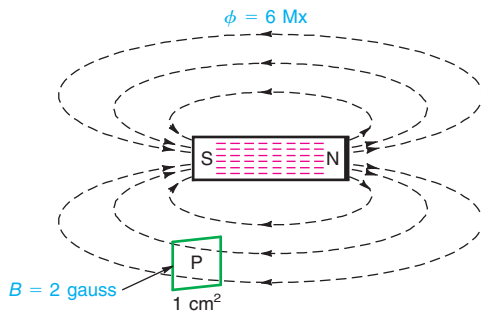

Figure 11-5 Total flux ϕ is six lines or 6 Mx. Flux density B at point P is two lines per square centimeter or 2 G.
Field strength is expressed in lines of force. One maxwell (Mx) unit equals one magnetic field line. In Fig. 11-5, as an example, the flux illustrated is 6 Mx because there are six field lines flowing in or out for each pole. A 1-lb magnet can provide a magnetic flux ϕ of about 5000 Mx.
Another unit of magnetic strength is flux density. As shown in Fig. 11-5, the *flux density* is the number of magnetic field lines per unit area of a section perpendicular to the direction of flux. As a formula,
In the cgs system, the gauss (G) is one line per square centimeter, or $1 \text{ Mx}/\text{cm}^2$. As an example, in Fig. 11-5, the total flux ϕ is six lines, or 6 Mx. At point P in this field, however, the flux density B is 2 G because there are two lines per square centimeter. The flux density is higher close to the poles, where the flux lines are more crowded. As an example of flux density, B for a 1-lb magnet would be 1000 G at the poles.